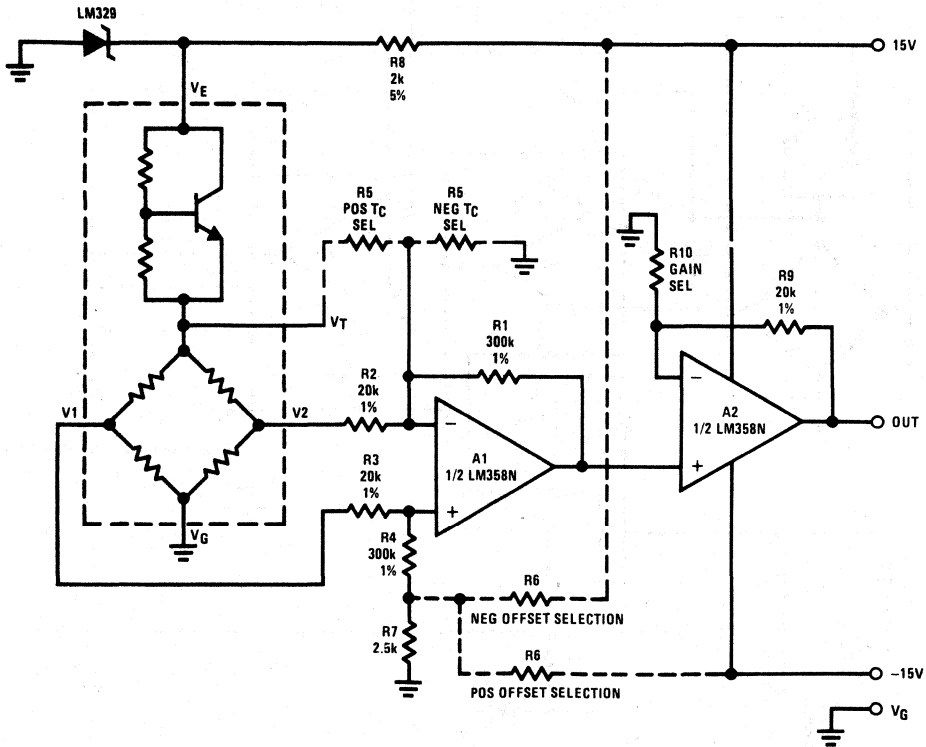

Figure 6. Low Cost/Zero Based
For improved offset temperature compensation a signal conditioning circuit can be used. To adjust the temperature compensation circuit, vary the temperature slowly while trimming the appropriate resistor to minimize the output voltage rate of change. The method requiring the lowest parts count uses a low temperature coefficient, high value resistor (see *Figure 6*, R5). A more effective method is to use the temperature sensitive output,  $V_T$ , to feed a compensating signal to the summing junction of the output stage (see *Figure 7*). With either of these methods, auto-referencing can provide further improvement.
**Low Cost Circuit — Figure 6**